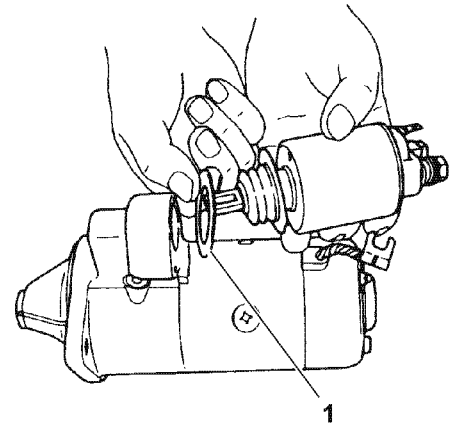

Figure 8-35
14. Install the plunger into the solenoid switch. Install the original dust covers (1, Figure 8-35) and the return spring if equipped.